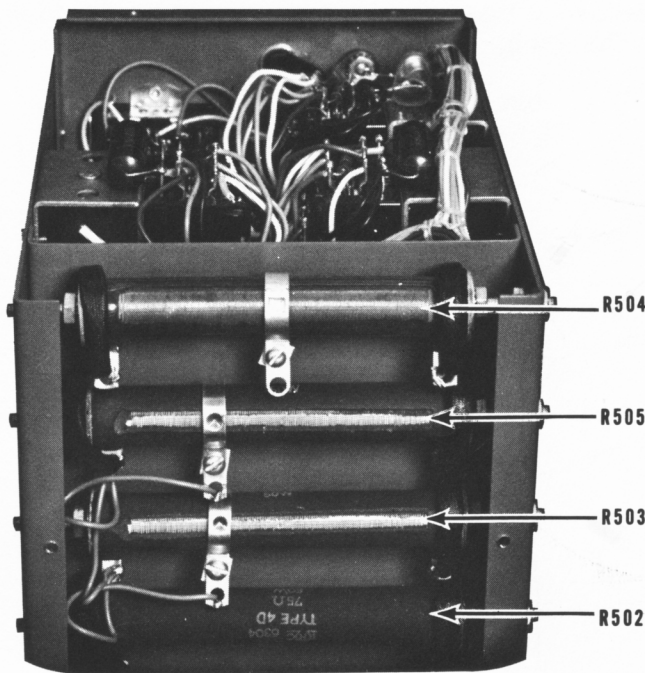

Fig. 4-1 Tape Tensioning Resistors
Step 6: If the indication in Step 5 is incorrect, turn power off, remove the cover on the transport control box, and adjust the slider on resistor R505 (see Fig. 4-1) as applicable. Correcting a high reading requires that the slider short a lesser part of the resistor, correcting a low reading requires that more of the resistor be shorted. After adjustment, re-apply power and check the torque. Repeat as necessary to obtain the readings quoted.
Step 8: Repeat the entire procedure at the takeup turntable. Note that the cord should be wrapped clockwise on the reel hub, and that adjustment is made at the slider of R503 (see Fig. 4-1). Scale INDICATION should be the same as for the rewind turntable.